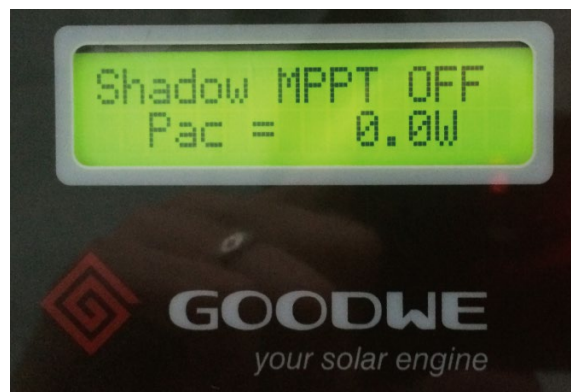

Figure 7. Activate Shadow Scan Function On Inverter
2. Shadow scan function is off as default setting on each inverter. Please do commissioning on the local display (as shown in Figure 7) or contact GoodWe if this function needs to be activated.